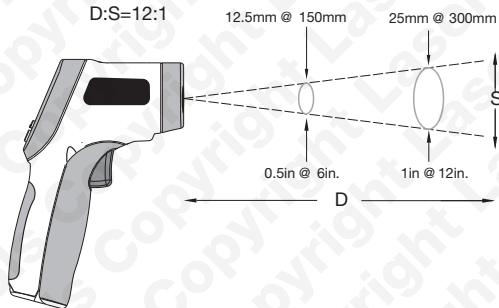

Figure 3
Field of View: Refer to **Figure 3**, ensure that the target is larger than the spot size (S); the smaller the target, the closer you should be to it. When accuracy is critical, make sure the target is at least twice as large as the spot size.